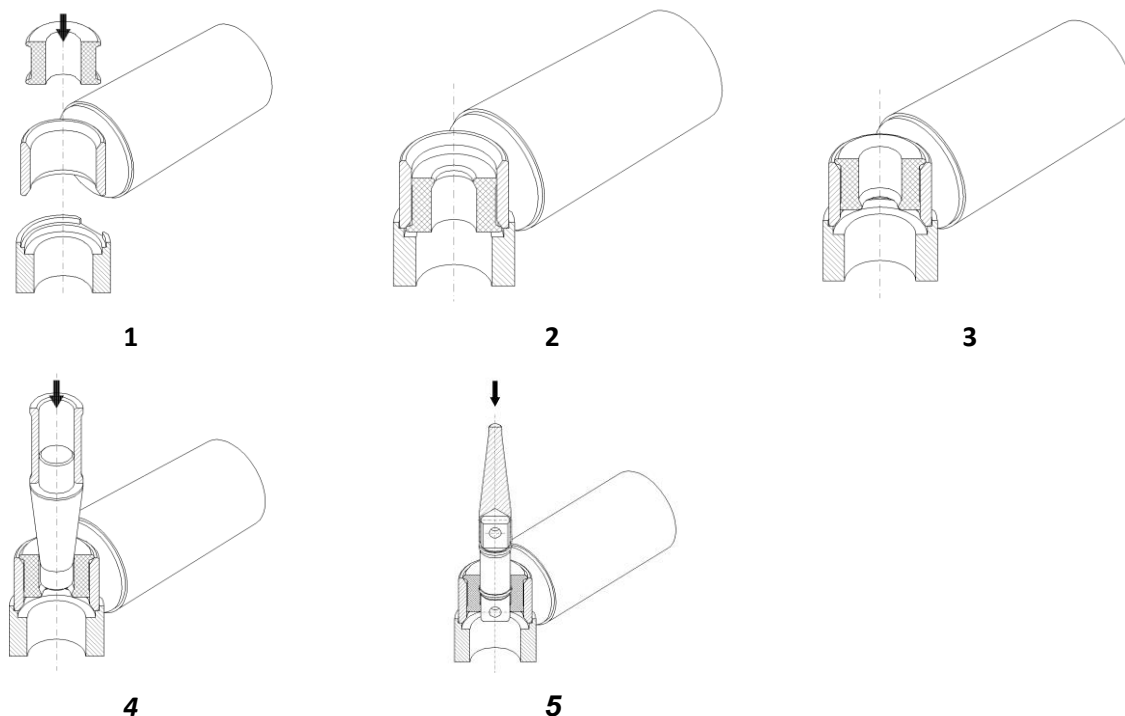

Figure 5-11 Replacement of rubber blocks
3. Place the eye on a suitable tool (Figure 5-11/1).
4. Place the rubber over the eye and press it in. If necessary, a plastic or wooden hammer can be used. The rubber must be pressed in so far that the collar of the rubber projects above the bottom side of the eye (Figure 5-11/2).
5. Rotate the damper 180° around the longitudinal axis and place the eye back on the tool (Figure 5-11/3).
6. Heat the assembly cone and the bush or trunnion to be mounted to about 60°C. Place the assembly cone in the rubber and the bush on the cone (Figure 5-11/4) or place the trunnion in the rubber and the assembly cone on the trunnion (Figure 5-11/5).